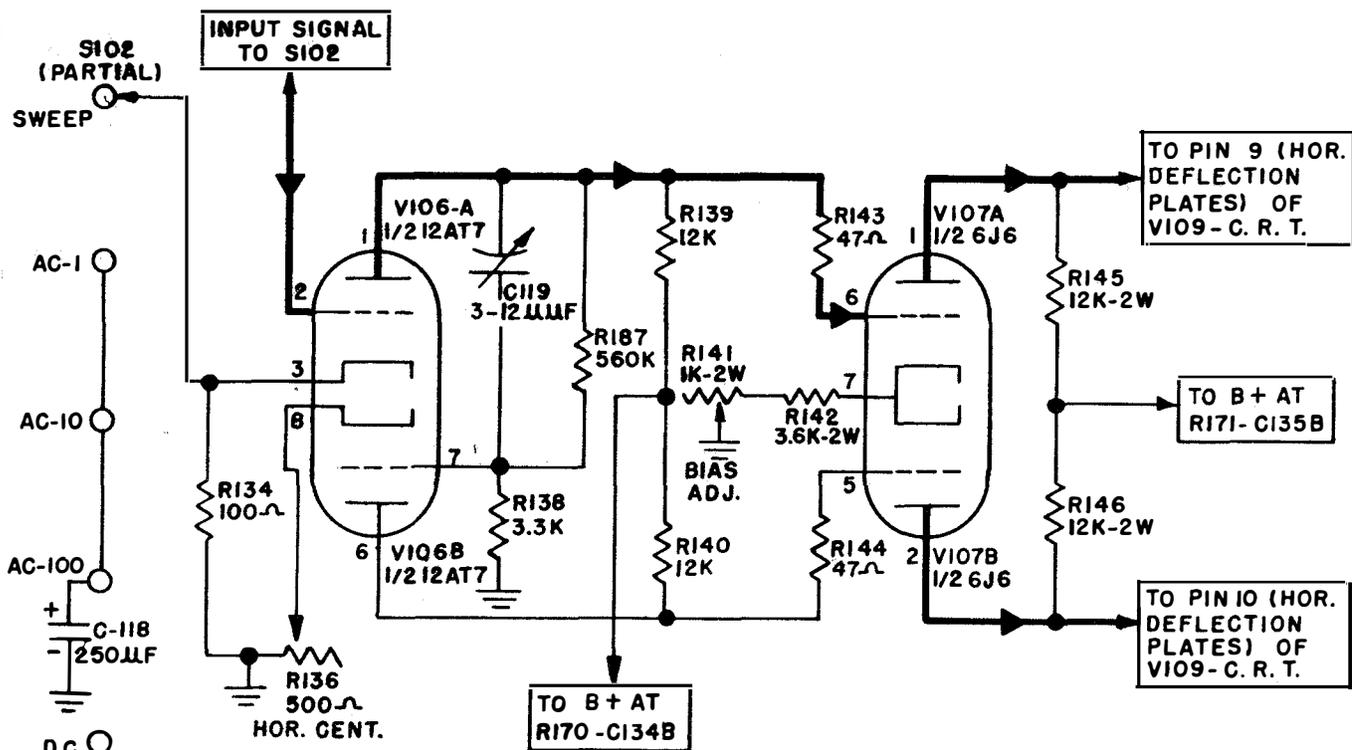

Figure 2-7. Horizontal Amplifiers
(3) AMPLIFIERS. (See Figure 2-7)